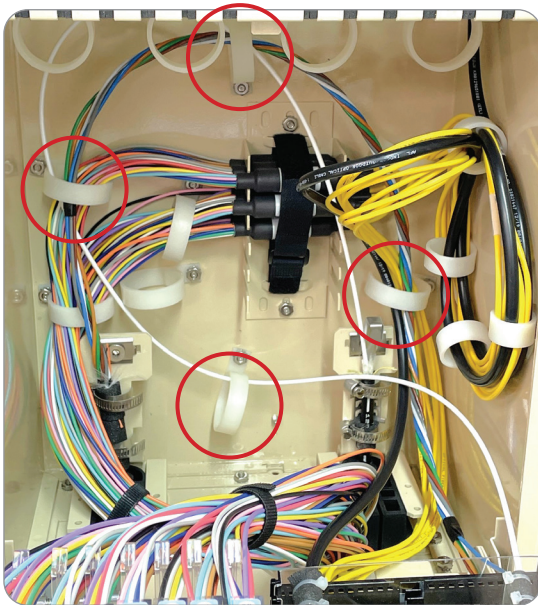
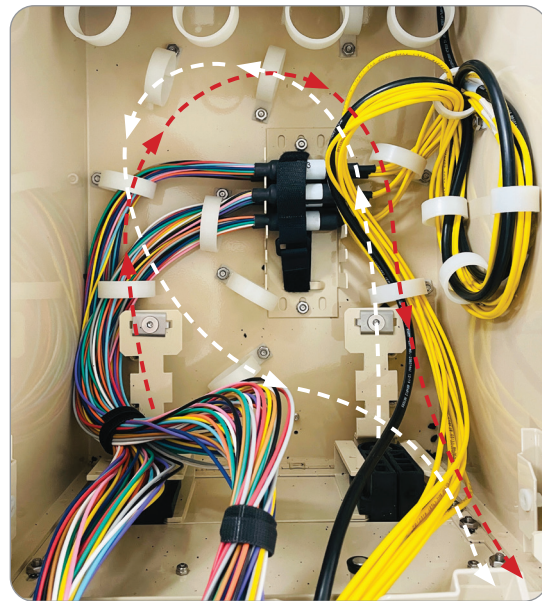

Figure 16
Figure 17
1. Use the fiber management rings on the back wall of the EDE to route the slack buffer tubes (Figure 16). The cable entering through the right entry port (shown in white) should route counterclockwise before sweeping into the tray. The cable entering through the left entry port (shown in red) should route clockwise before sweeping into the tray (Figure 17).